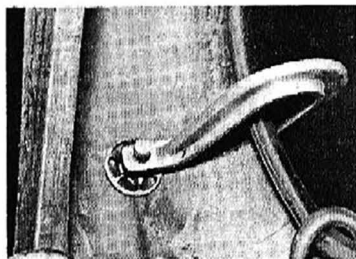

Fig. 78
- (a) Remove backing from patch and carefully center patch over injury. Place clamp over patch and tighten only finger tight (fig. 78).